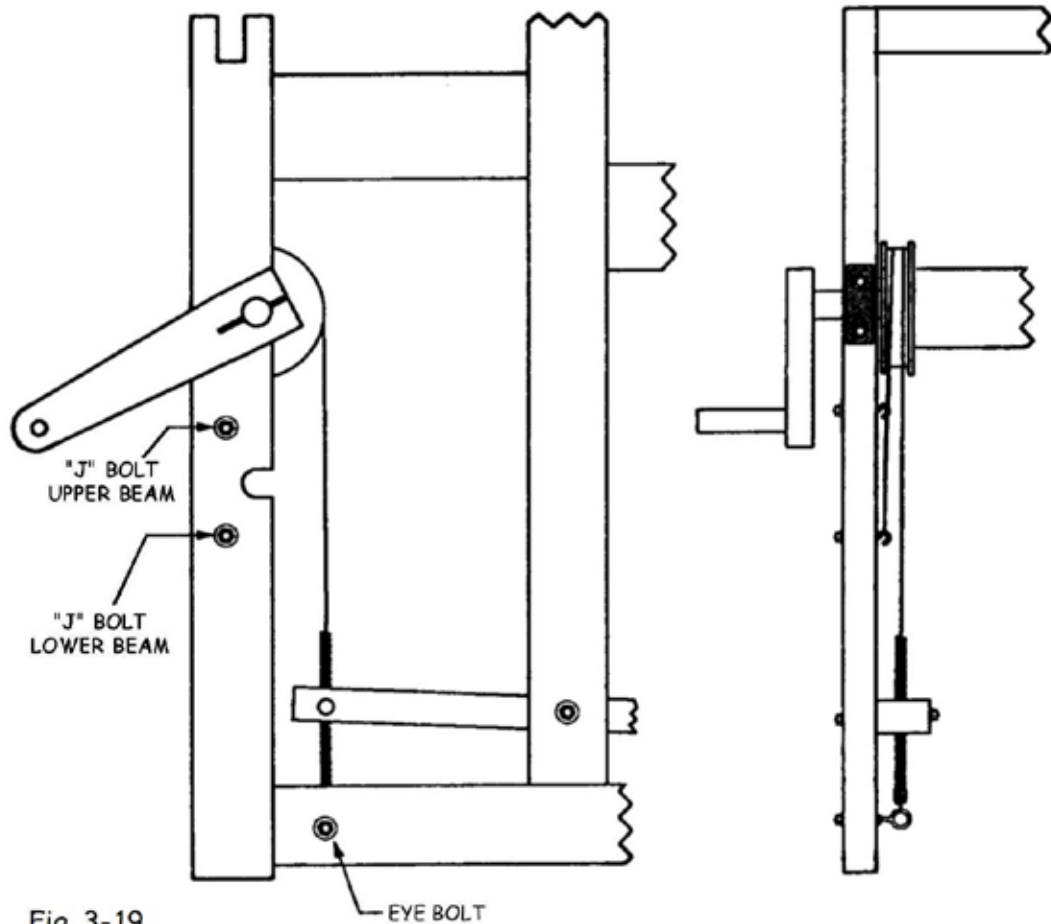

Fig. 3-19
- 4) Figure 3-19 indicates the holes for the cable mounting hardware.